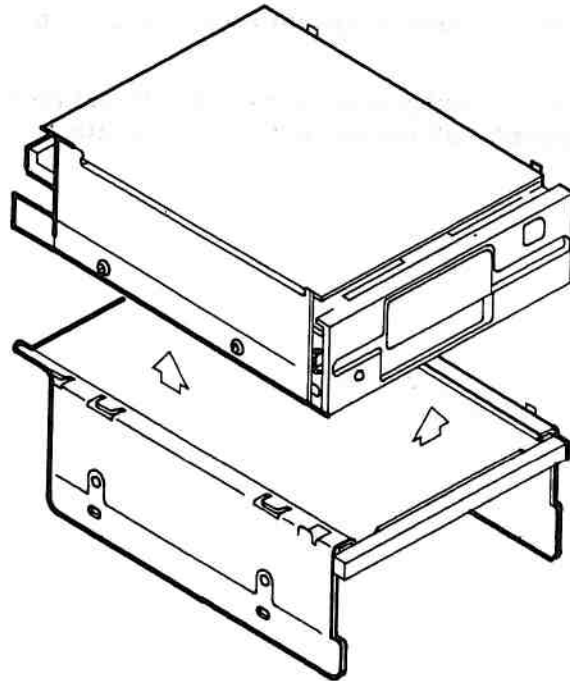

Figure 3-25. Removal of Upper Mini-Floppy Disk Unit From Cover
10. Remove the four screws that attach the upper MFD Unit to the cover and remove the MFD Unit from the cover (Figure 3-25).